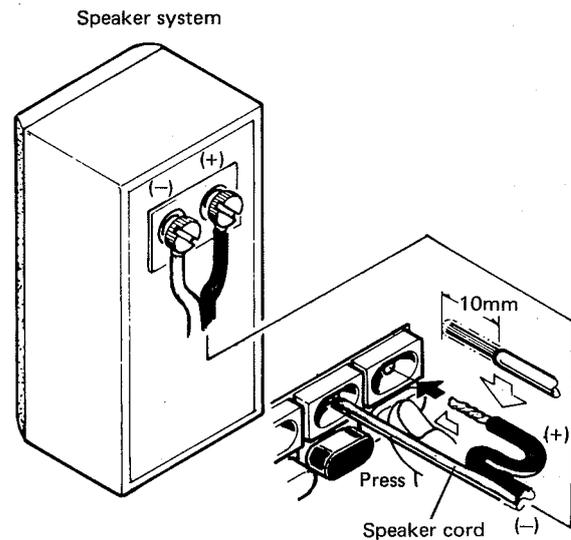

Fig. 10
1. As shown in Fig. 10, strip about 10mm of the insulation from the end of the speaker cord. If the conductor is stranded, twist the strands together to prevent spreading.